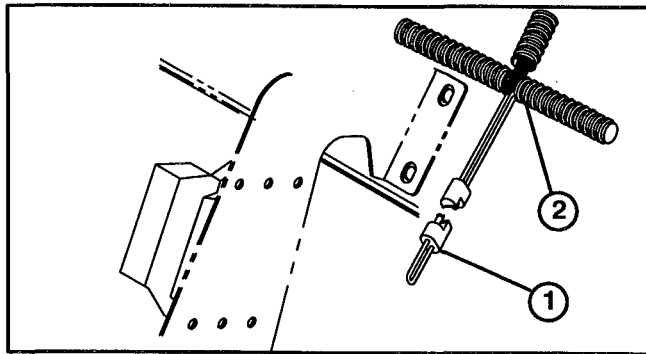

Figure 3
10. Remove (15) screws and washers securing front hood to vehicle frame and remove hood.
13. Locate, above brake fluid reservoir, the grey, safety interlock jumper wire connected to vehicle wire harness (Fig. 3). Unplug and discard jumper wire.